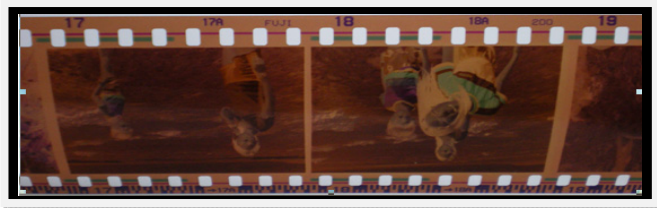
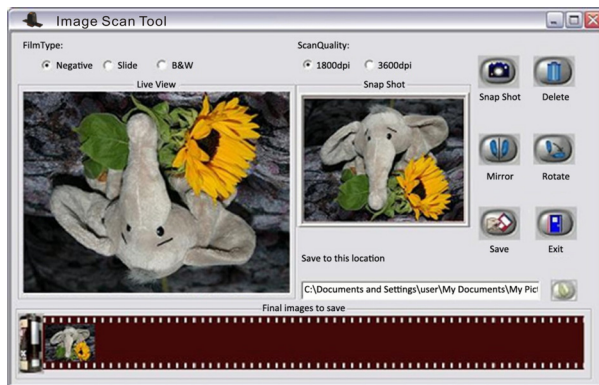

Figure 2
Figure 3
- ✧ If the image is upside down [see fig. 2] , the image can be corrected by continuously “Rotate” function in Image Scan Tool after capture[see fig. 3].